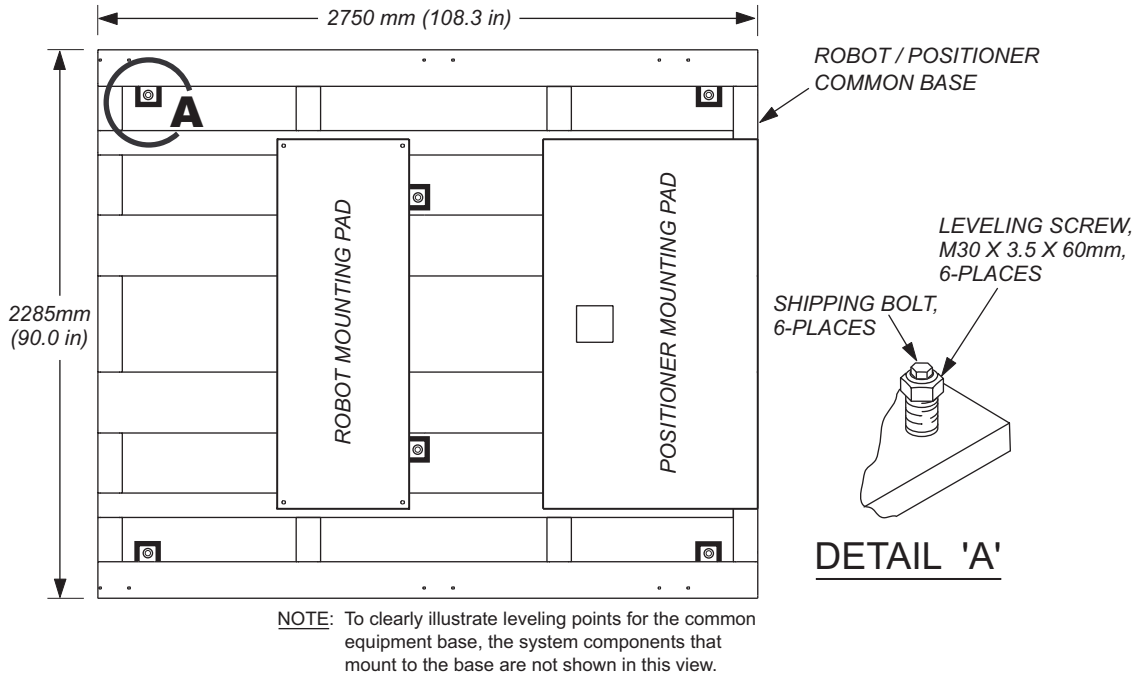

Figure 9 Stabilizing and Lag Points (Robot / Positioner Common Equipment Base)
1. Unbolt the robot/positioner common base from the wooden shipping skid. The bolts that secure the common base to the wooden shipping skid go down through the hollow levelling screws and are threaded into the wooden shipping skid (see Figure 9). It may be necessary to hold the levelling screws in place with a suitable open-end wrench, while removing the shipping bolts.
- Use an M36 socket to loosen or tighten each levelling bolt to level the robot/positioner common base (see Figure 9).